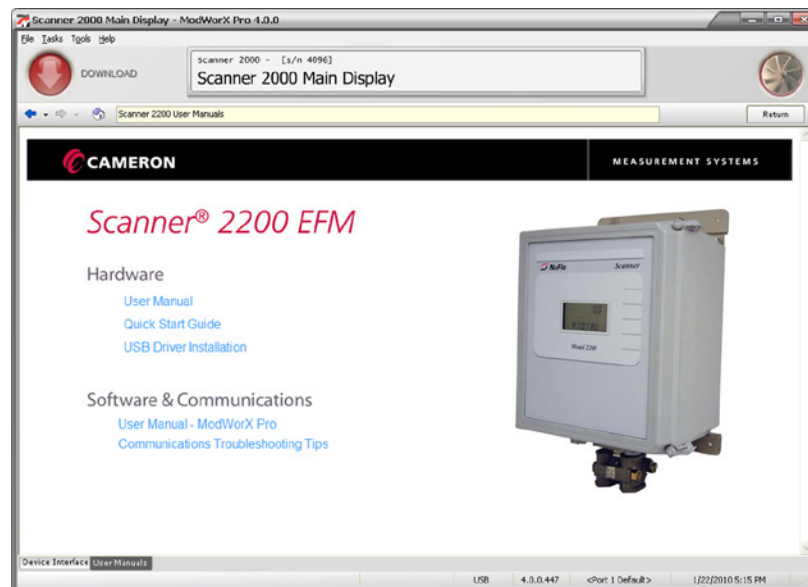

Figure 2.17
2. Then choose the desired document from the list of available documents for the selected product (Figure 2.17).